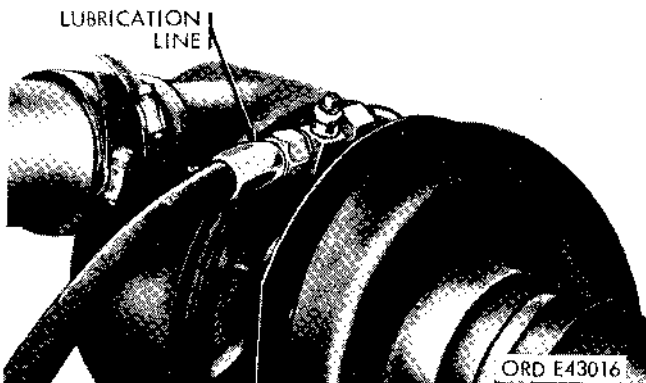

Figure 2-57. Disconnecting lubrication line at turbocharger—diesel.
(1) Disconnect lubrication line (fig. 2-57) from turbocharger.